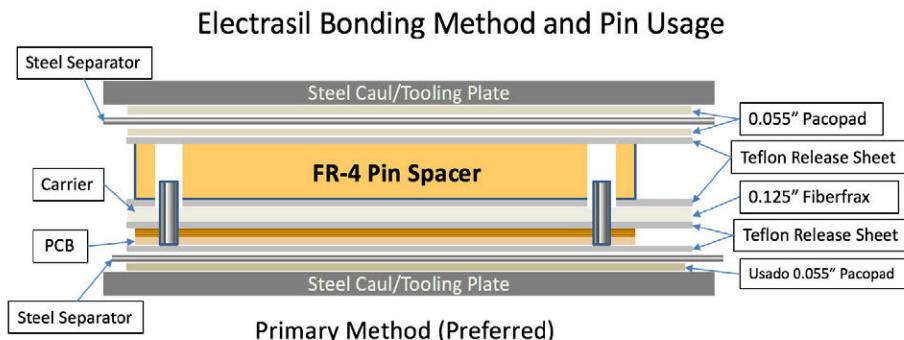

Figure 8.6: Bonding method and pin usage.
- **Bonding Fixture Design:** This is also custom designed by the PCB fabricator to help ensure there is strong adhesion between the PCB and metal, and good registration between the PCB and the metal. It is important to work with a fabricator that has extensive experience custom designing bonding fixtures. Figure 8.6 shows a typical setup of how a PCB is bonded to metal using a sheet film adhesive.